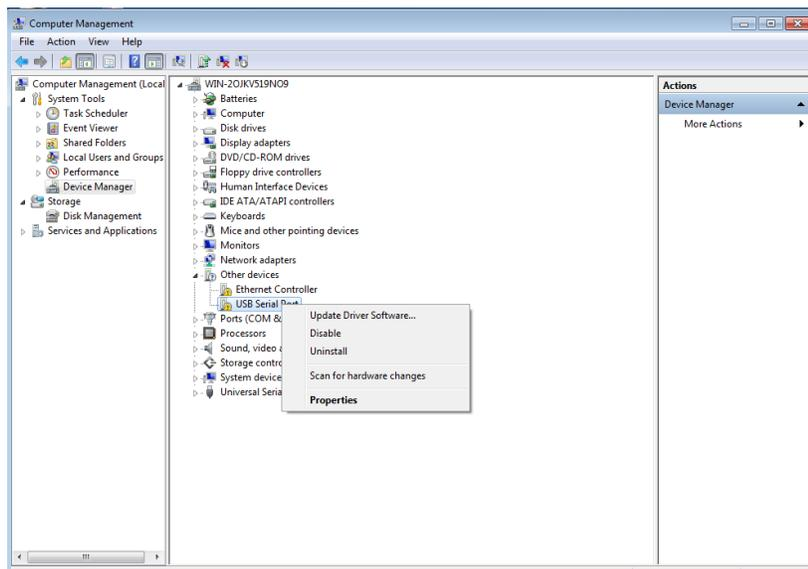

Figure 6 – Driver Installation Step-by-Step – USB Serial Port
- 3rd step: Right-click **USB Serial Port** and choose **Properties**. See Figure 6.